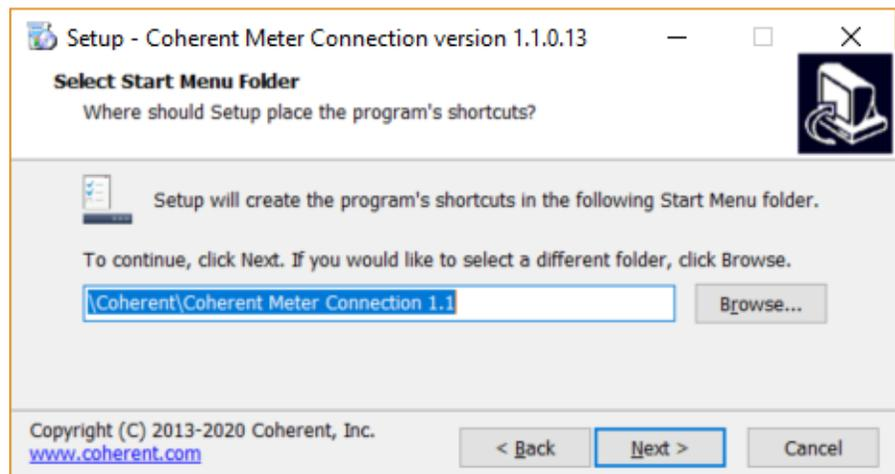

Figure 1-7. Select Start Menu Folder
7. Select a directory on your workstation for the Start Menu where you want to install the program, as shown in Figure 1-7. Accept the selection or browse to a different location, and click Next.